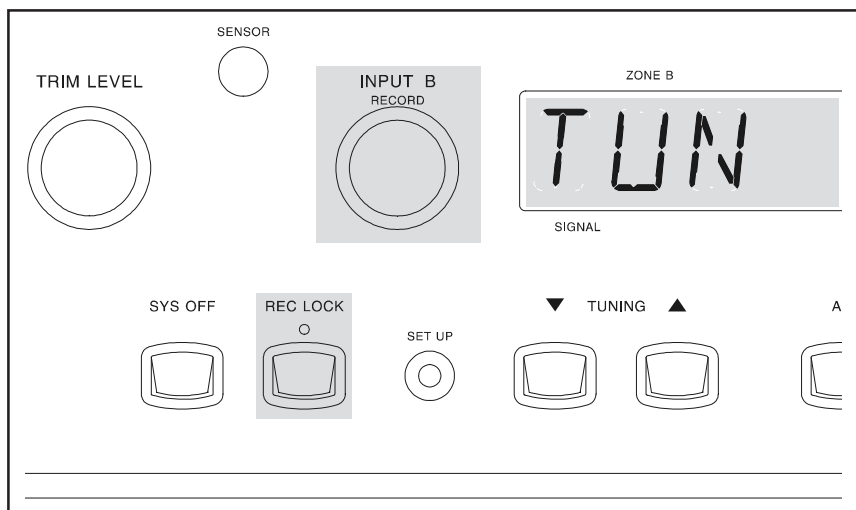

Figure 59
1. Turn ON Zone B by pressing the POWER pushbutton on a keypad, or Remote Control in Zone B. Refer to Figure 59 & 60.
allows a record process to be performed in Zone A without interference. Refer to figure 59.